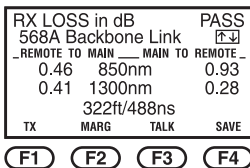

Figure 5-15. Autotest Two-Way RX Loss screen.
2. Press the **F1** button to display the RX Loss Screen. It displays the loss in dB at both wavelengths for the cable that was connected to the Main Unit's RX port during the first step of the Autotest. See Figure 5-15.